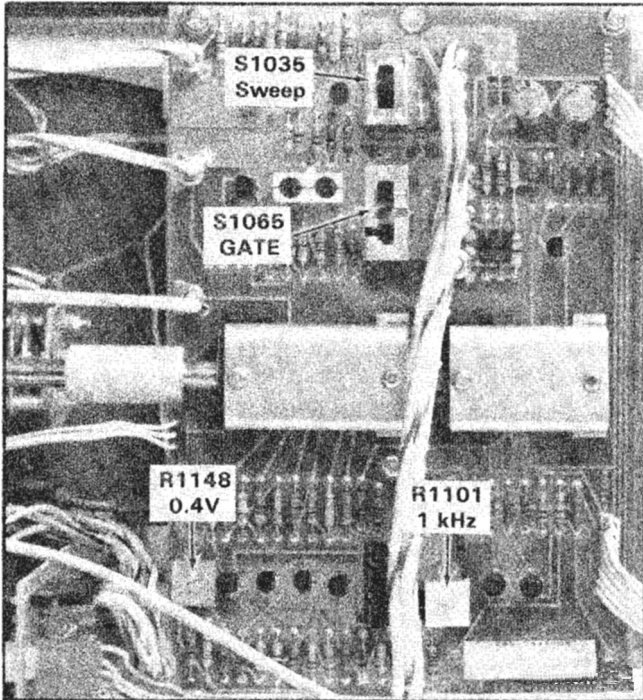

Fig. 5-8. Location of calibrator adjustments and switch locations.
- Adjust—0.4 V, R1148, for a meter reading of 0.4000 volt. See Fig. 5-8 for adjustment location.
g. Adjust—1 kHz, R1101, for minimum drift. See Fig. 5-8 for adjustment location.
c. Set the Sweep selector switch, S1035, to A. See Fig. 5-8 for location.
e. Set the Sweep selector switch, S1035, to B, and the time-base in B HORIZ compartment to 1 ms/div. See Fig. 5-8 for location.
b. Set the Gate selector switch, S1065, to A. See Fig. 5-8 for location.
d. Set the Gate selector switch, S1065, to B. See Fig. 5-8 for location.
f. Set the Gate selector switch, S1065, to Dly'd. See Fig. 5-8 for location.
c. Set the Readout switch (S2110), to F.R. (Free Run) and the Gate switch (S1065), to A. See Fig. 5-9B for Readout switch location and Fig. 5-8 for Gate switch location.